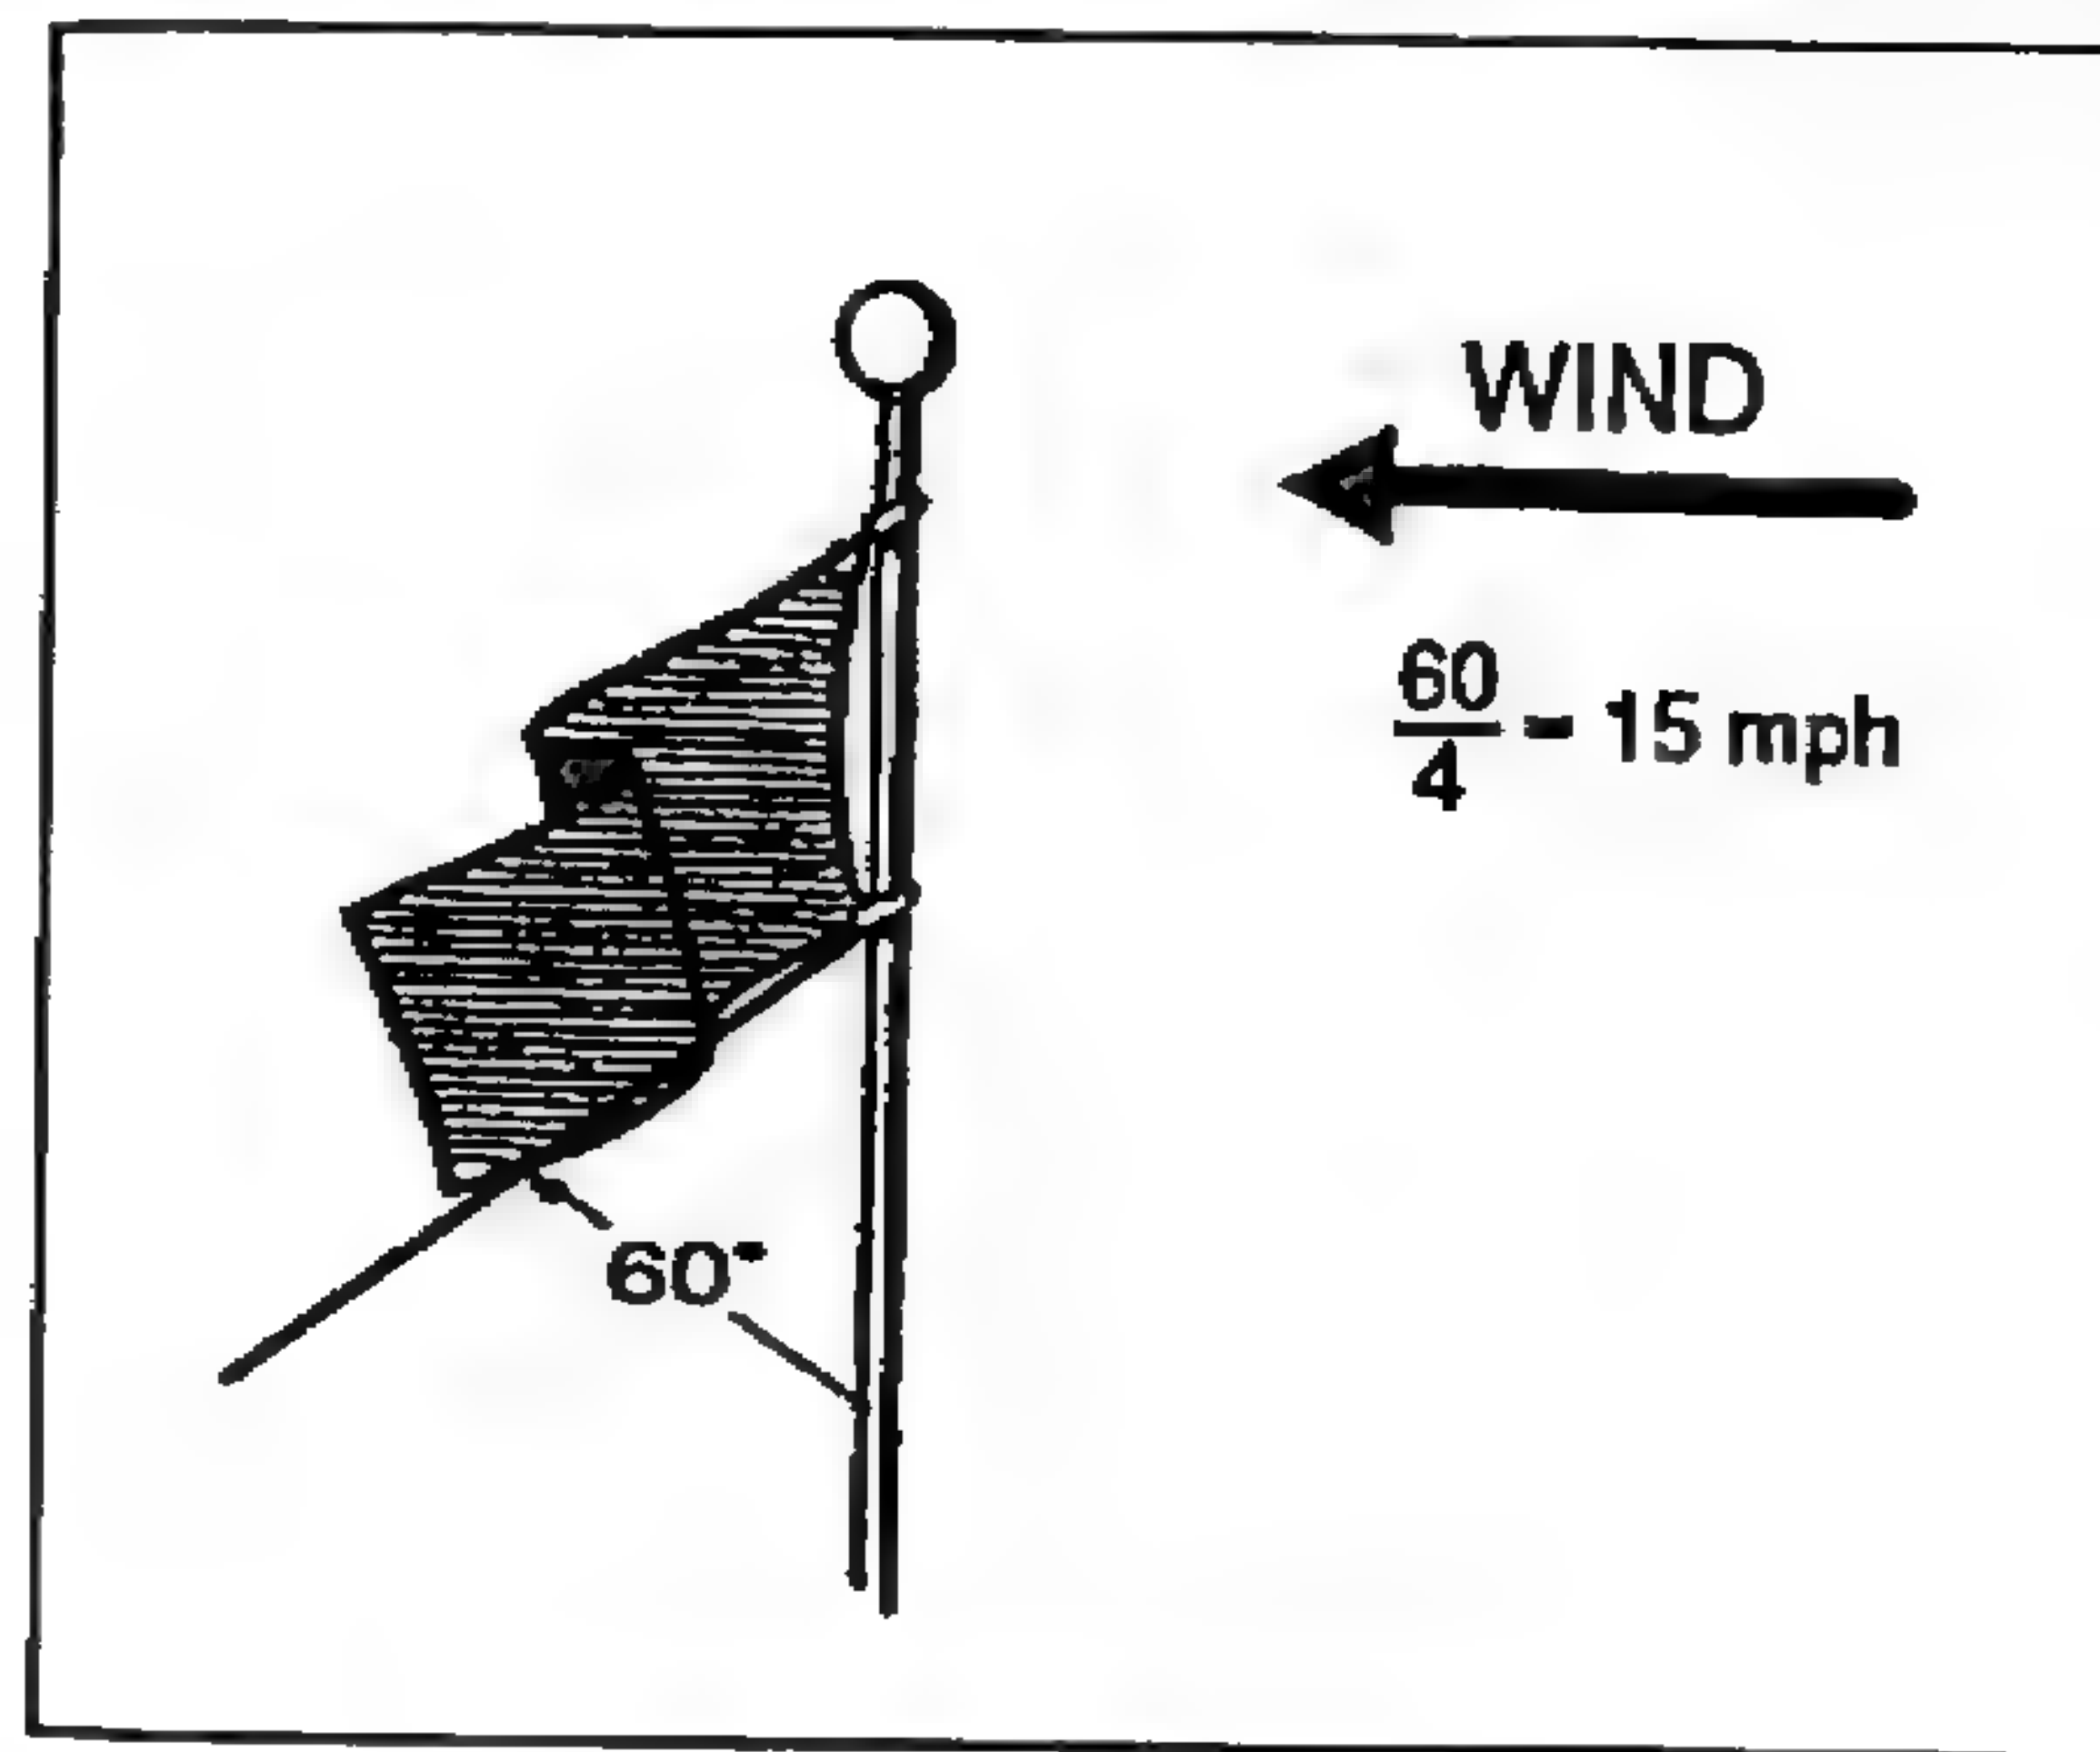

Figure 3-20. The Flag method.
a. A common method of estimating the velocity of the wind during training is to watch the range flag (Figure 3-20). The sniper determines the angle between the flag and pole, in degrees, then divides by the constant number 4. The result gives the approximate velocity in miles per hour.